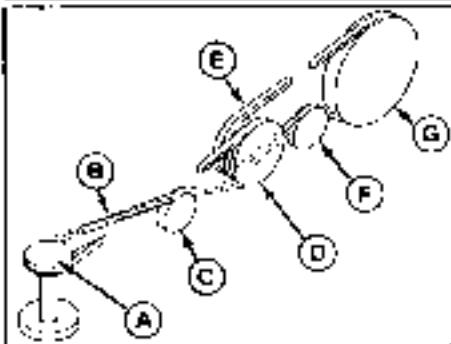

Figure 19. Belt Diagram
11. Pull the rear idler pulley down, and slip the lower belt section on top of the pulley. See the belt diagram (Figure 19).
14. Place the back side of the belt onto the front idler pulley and the V side of the belt on the variator pulley groove. Refer to the belt diagram (Figure 19).